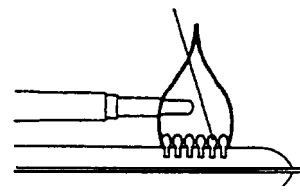

FIG. 17
- NOTE: The color of the flame shall be clear blue over the slots of the burner. (See FIG. 17).